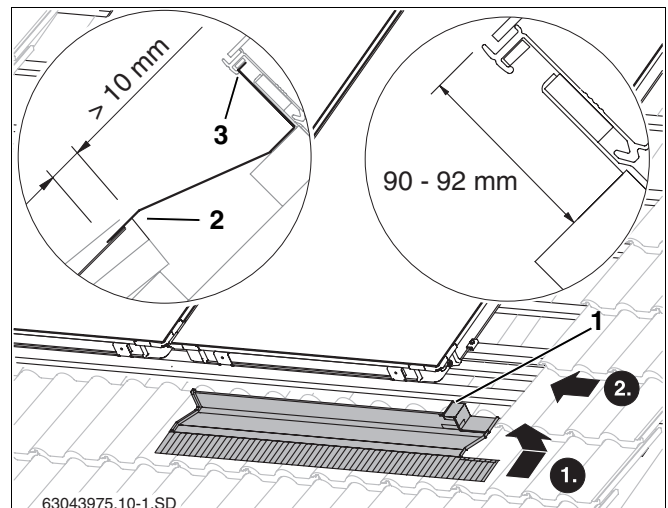
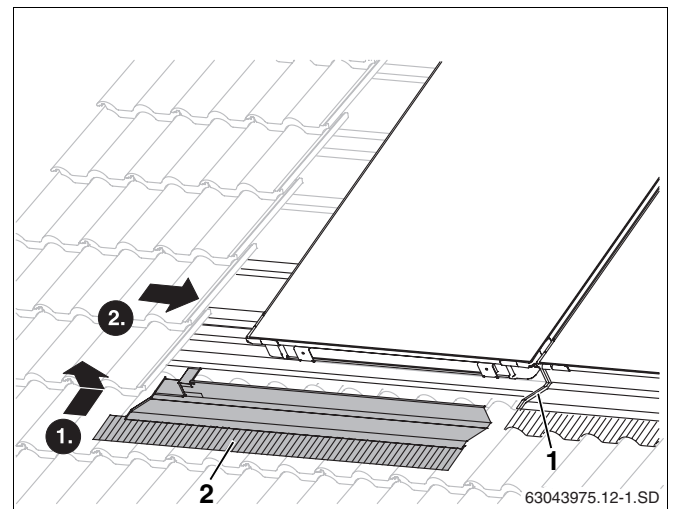

Fig. 44 Lower right facing panel
Fig. 47 Fitting the left-hand lower facing panel
- ▶ Insert upper edge of the right-hand facing panel into the recessed channel on the collector (Fig. 44, **Item 3**).
- ▶ Push facing panel towards the collector so that the short edge on the right (Fig. 44, **Item 1**) grips up into the recessed channel on the collector.
The facing panel must overlap the pan tile by at least 10 mm (Fig. 44, **Item 2**).
- Lay the left-hand facing panel (Fig. 47, **Item 2**) on the previous one, and fit in the same way as the right-hand one (Fig. 44).
Do not remove protective film from the adhesive on the facing panels (Fig. 47, **Item 1**) until all panels are screwed on.